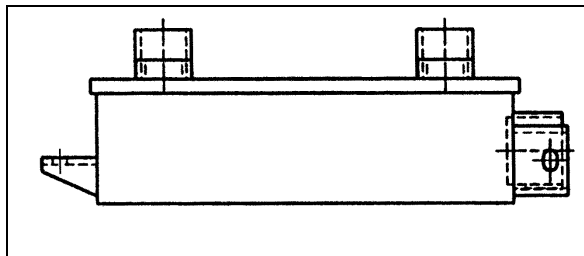

FIGURE 13: COOLER WITH RETARDER 07073
18. Adjust the retarder pressure to 80 ± 3 psi with the air pressure regulator. For more information refer to Section 12, "BRAKE AND AIR SYSTEM", under heading "AIR PRESSURE REGULATOR". The air pressure regulator is located near the Webasto in engine compartment, on R.H. side (Fig. 13).